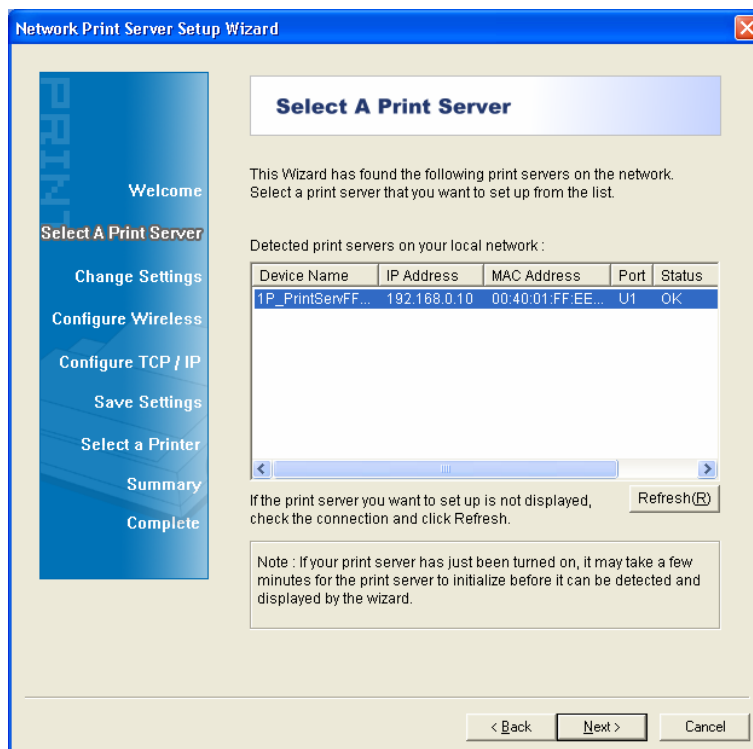

Figure 3-4
- From the “Select A Print Server” screen as shown in Figure 3-4, select the print server that you want to configure and click **Next**.